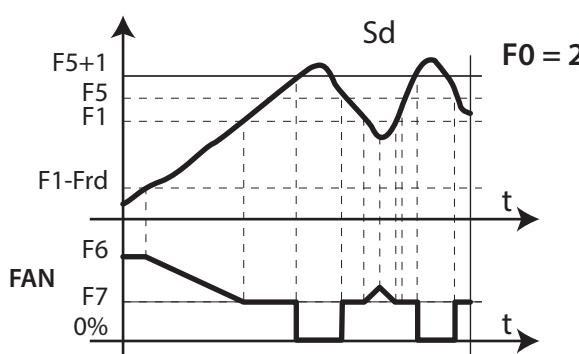

Fig. 6.0
- If F0=2 and HO1=2, speed fan is calculated in according to Figure 6.0. Anyway, if speed fan is higher than 0, "FAN" relay DO3 is ON anyhow (closed):